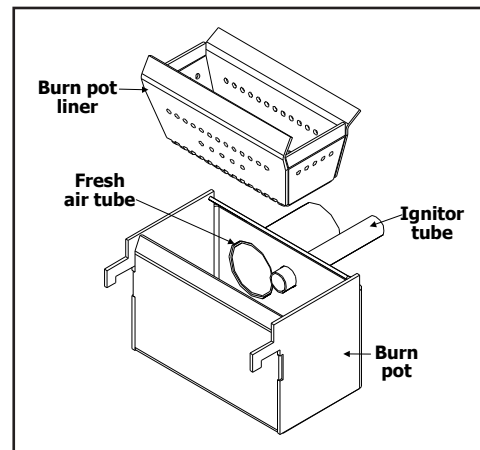
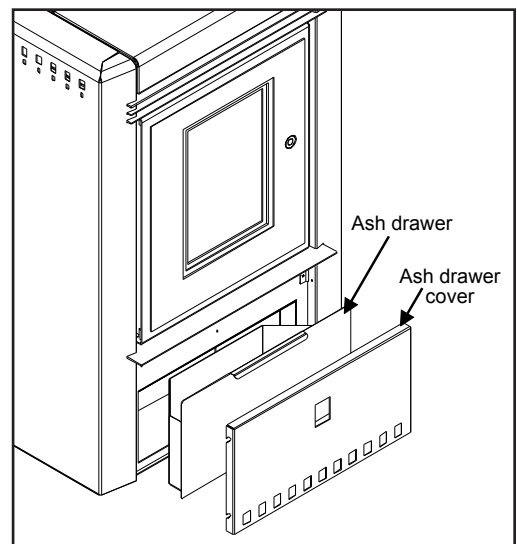
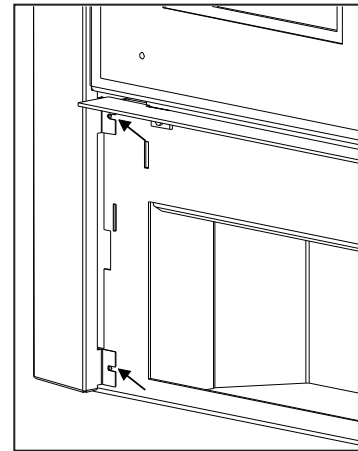

Figure 8
Figure 9
Figure 11
Remove ash drawer (see Figure 9). Dump the ashes into a metal container stored away from combustibles. Monitor the ash level every week. Remember that different pellet fuels will have different ash contents. Ash content is a good indication of fuel efficiency and quality. Refer to “Warnings and Recommendations” for disposal of ashes.
2. Remove the cab sides by loosening the three (3) T-20 screws on the back of each side (see Figure 9). Remove the ash drawer cover and ash drawer (see Figure 8) then remove the T-20 screws from the two (2) front tabs (see Figure 11).